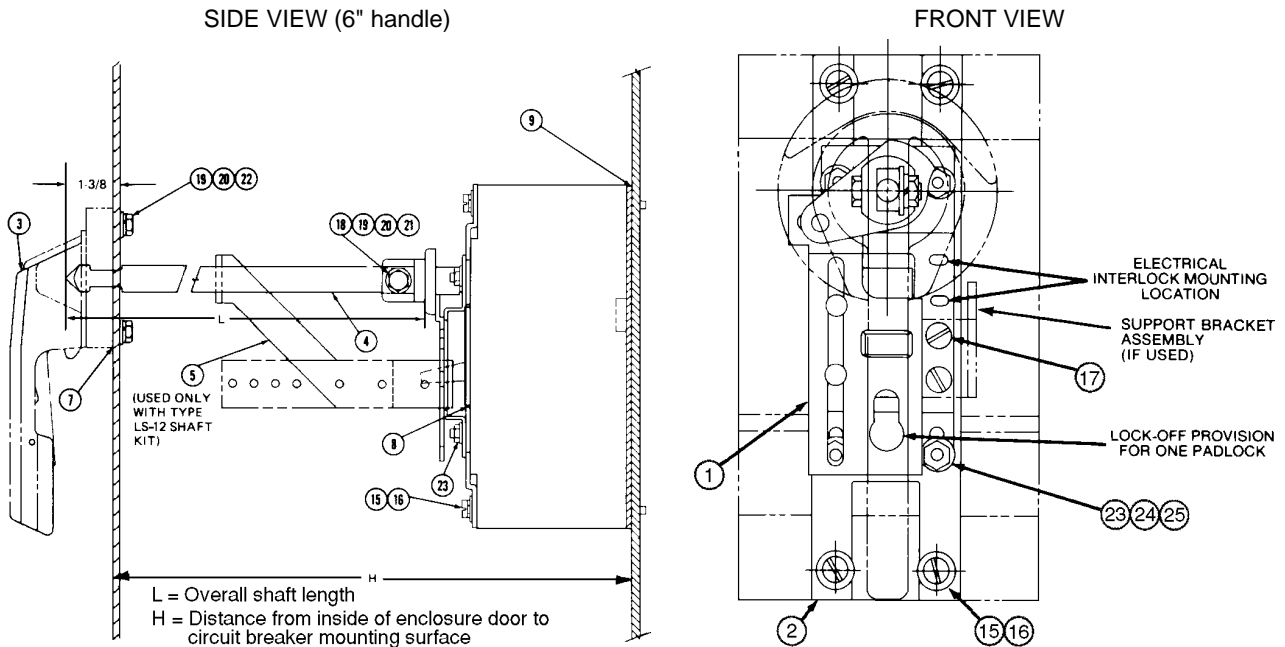
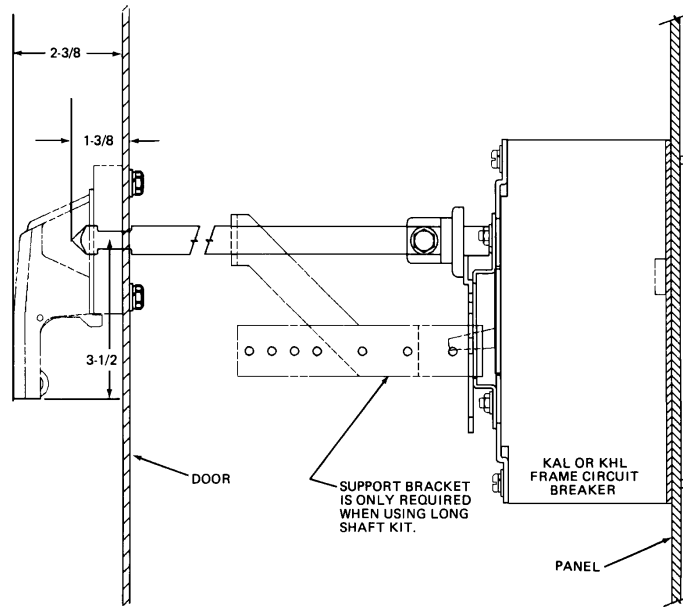

Figure 3 Mounting the Handle Assembly
Figure 4 3-1/2" Handle Assembly
^[1] See Figure 3 on page 4. ^[2] See Figure 4 on page 5.
1. Before beginning installation, read this entire installation section. To identify items, refer to Figure 3 on page 4.
6. Position insulator (item 9) under circuit breaker. Using screws and washers (items 15 and 16), mount circuit breaker along with operating mechanism (item 1).
- Determine enclosure mounting depth (dimension H in Figure 3). Calculate the required shaft length (L) using the formula $L = H - 3-5/8"$. Cut shaft to length L.
- Insert shaft until it is completely seated in operating mechanism (see Figure 3). While holding shaft in place, mark the shaft through the shaft mounting hole. Remove shaft and drill a 9/32" hole through the mark on the shaft.
- Reinsert shaft into operating mechanism and secure it with screw, lock washer, washer and nut (items 18, 19, 20 and 21).
- Mount handle assembly and gasket (items 2 and 7) using self tapping screws, lockwashers and washers (items 22, 19 and 20). The 6" handle assembly is shown in Figure 3 on page 4. The 3-1/2" handle assembly is shown in Figure 4.